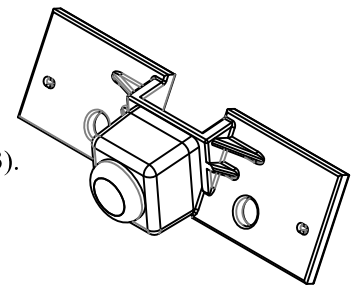

Figure 3: Rear Camera in Factory Mounting Plate
1. **Position** the rear camera and sensor bar channel underneath the liftgate mainframe (Figure 3).